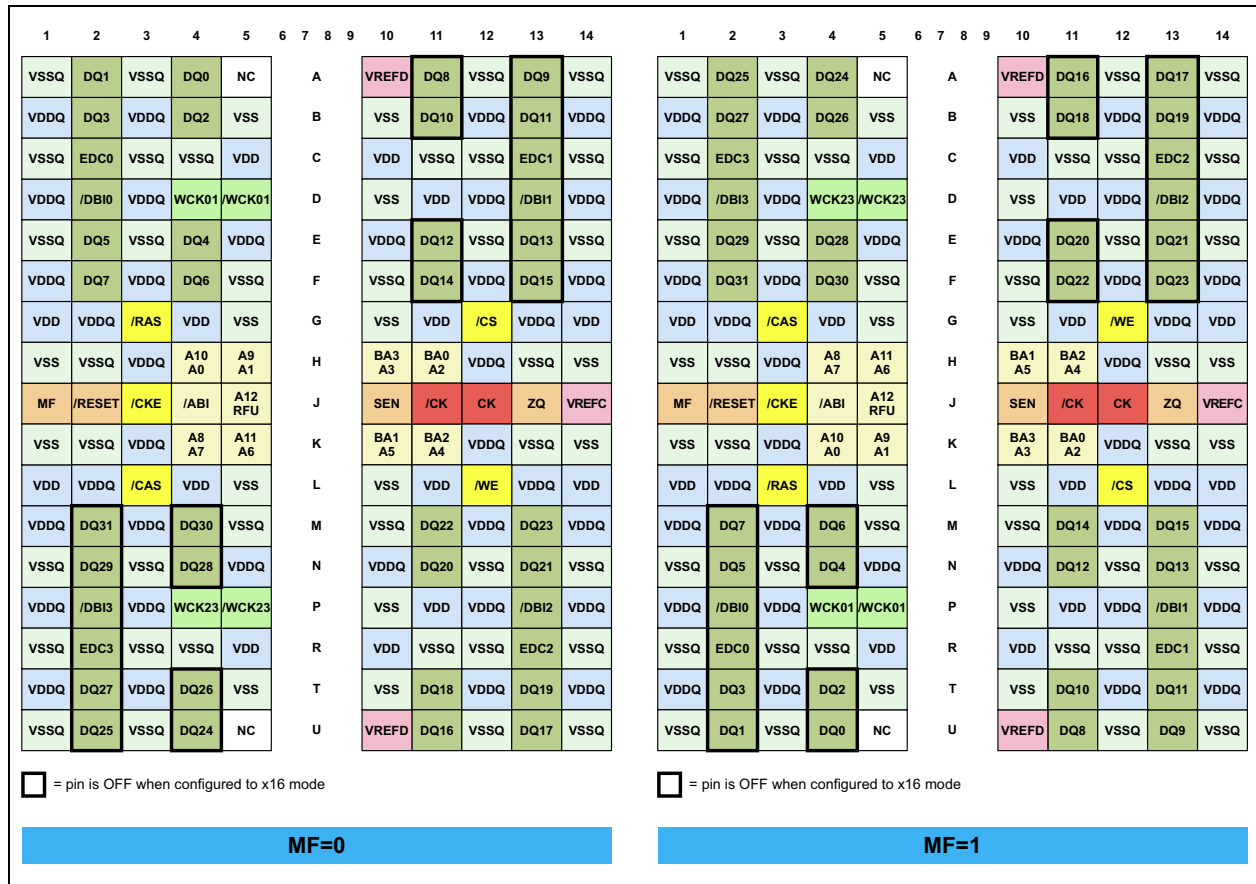

Figure 4: GDDR5 Ballout
Figure 4 shows the two ballouts of a GDDR5 SGRAM with Mirror Function (MF) set to 0 and 1. The mirror function changes the physical location of command, address, data and WCK pins and thus assists in routing devices back to back on the PCB. The MF pin is tied to VSSQ or VDDQ depending on the desired orientation.